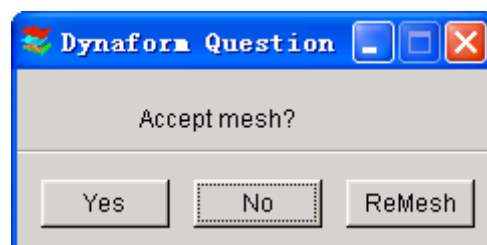

Figure 6.4.16 DYNAFORM QUESTION window
- Select **OK** to accept the selected line. The program will show the trimmed result and display a DYNAFORM QUESTION window as shown in Figure 6.4.16 to prompt the user to accept the trimmed result.